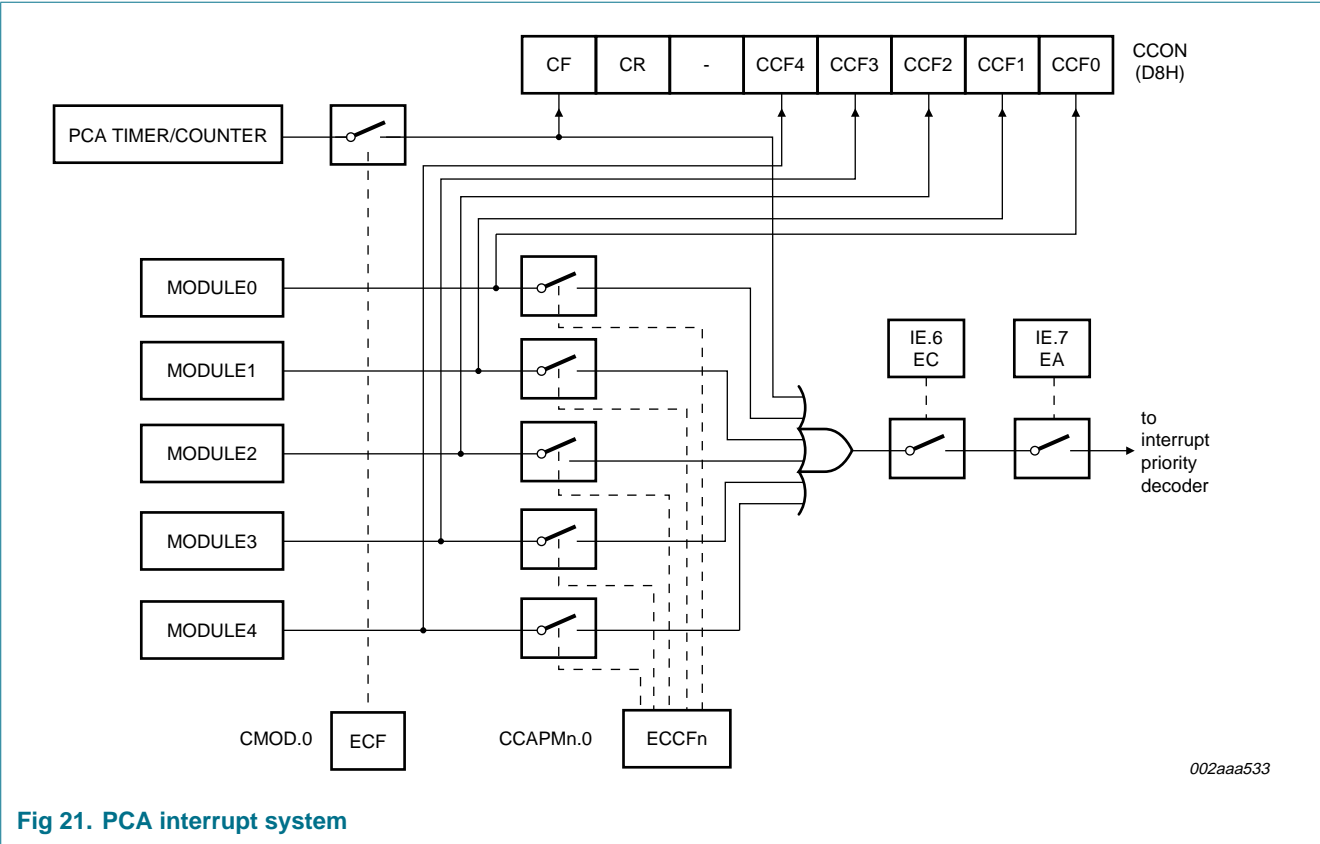

Fig 21. PCA interrupt system
The CCON SFR contains the run control bit (CR) for the PCA and the flags for the PCA timer (CF) and each module (CCF4:0). To run the PCA the CR bit (CCON.6) must be set by software. The PCA is shut off by clearing this bit. The CF bit (CCON.7) is set when the PCA counter overflows and an interrupt will be generated if the ECF bit in the CMOD register is set. The CF bit can only be cleared by software. Bits 0 through 4 of the CCON register are the flags for the modules (bit 0 for module 0, bit 1 for module 1, etc.) and are set by hardware when either a match or a capture occurs. These flags can only be cleared by software. All the modules share one interrupt vector. The PCA interrupt system is shown in Figure 21.
The ECCFn bit (from CCAPMn.0 where n = 0, 1, 2, 3, or 4 depending on the module) enables the CCFn flag in the CCON SFR to generate an interrupt when a match or compare occurs in the associated module (see Figure 21).